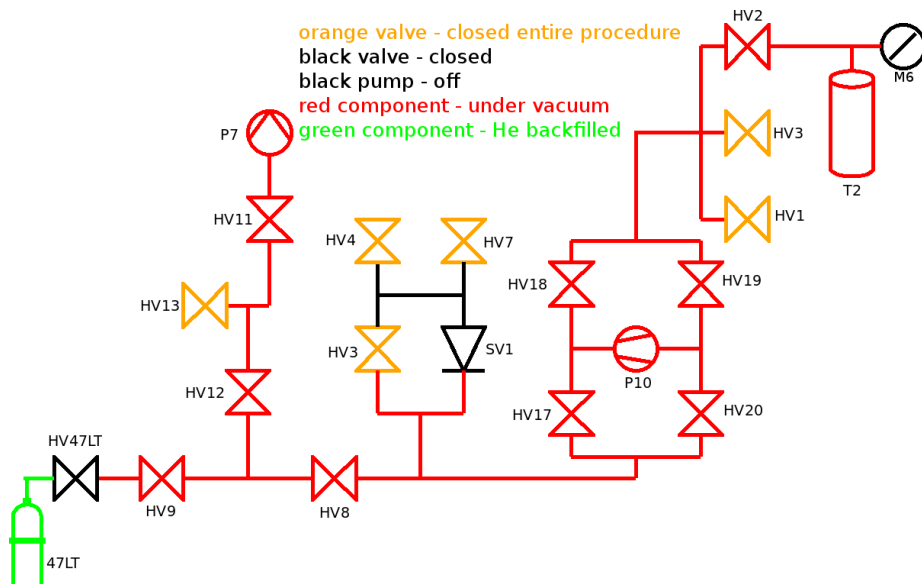

Figure 2: Evacuate system with P7.
2. Figure 2: start P7 and evacuate the system via the following path: P7, HV11, HV12, HV8, HV17-20, HV2, T2, and verify the vacuum in T2 with M6. Also, open HV9 to pull vacuum up to the valve on the pressurized cylinder.